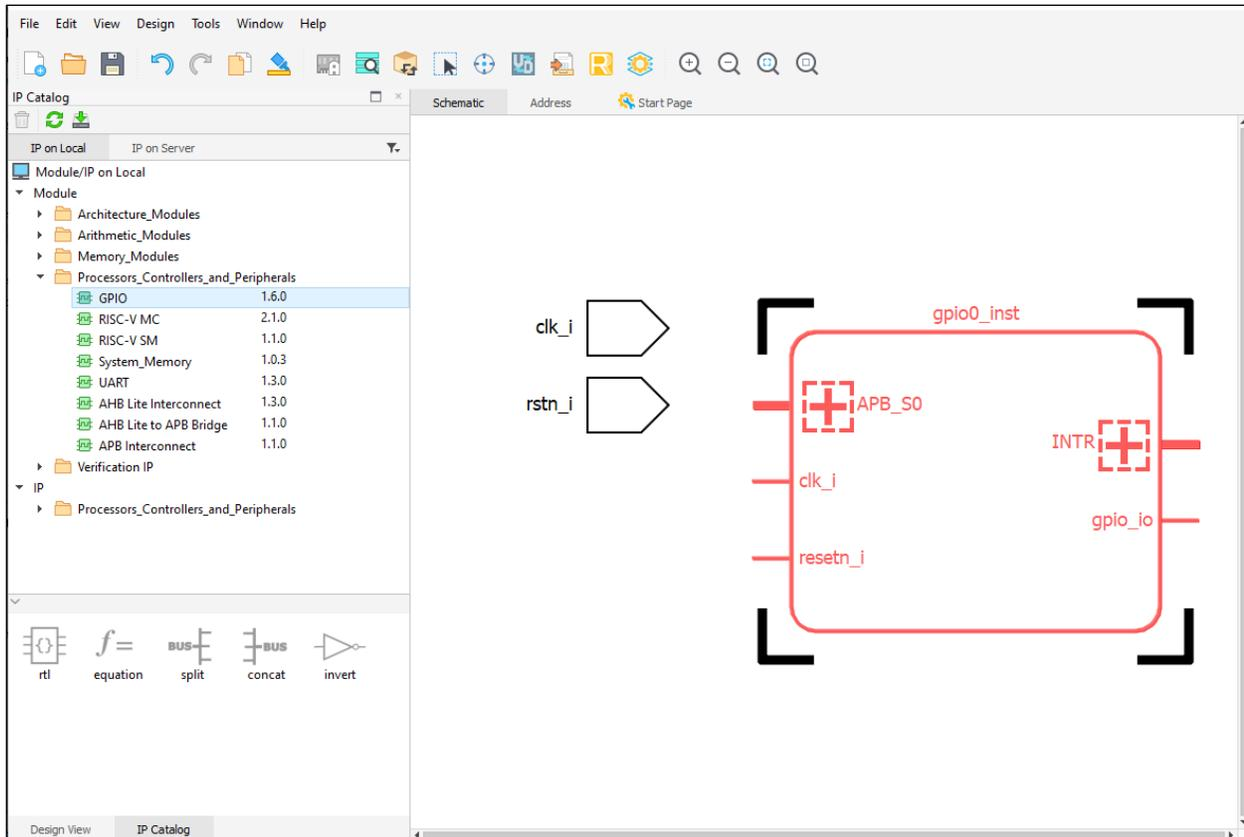

Figure 2.59. Select Object
- Click on the object in the Schematic view. The selected object turns to red (Figure 2.59).